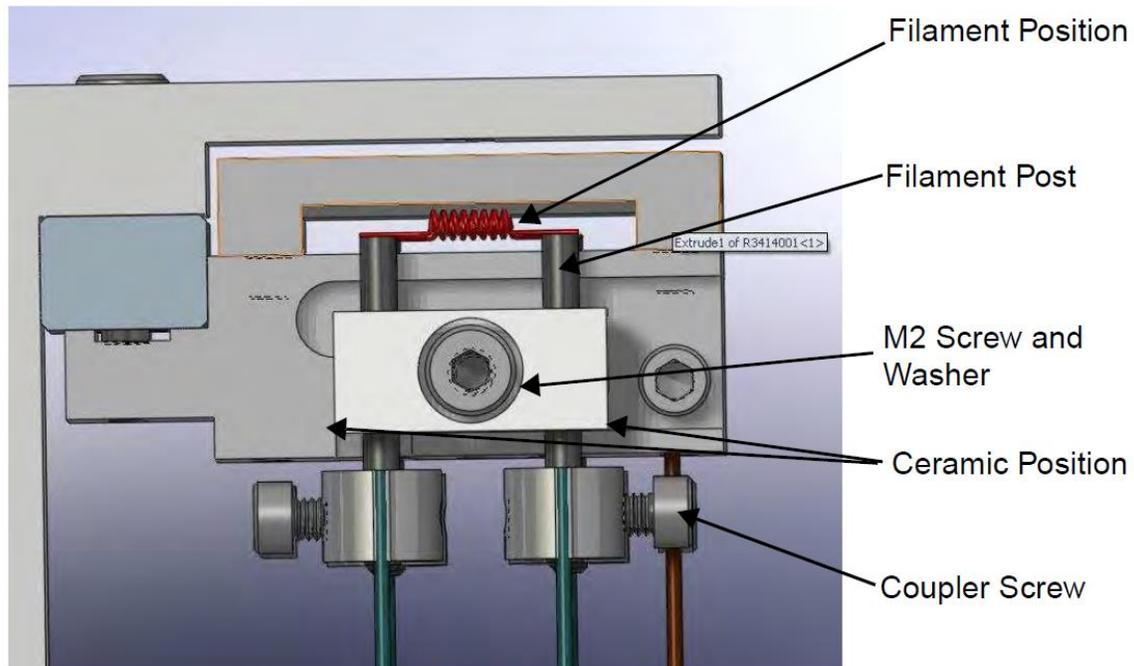

Figure 3-7. Filament positioning
15. Guide the ceramic against the bottom and side surfaces of the ion chamber (see Figure 3-7).
18. Visually verify ceramic is tight against the bottom and left-side ribs. Ensure that the filament is positioned in the slot of the ion source as shown in Figure 3-7.